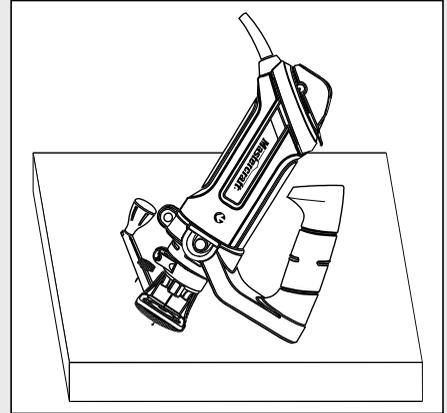

Fig. 13
- Rest the edge of the freehand cutting guide on the workpiece with the bit at an angle of about 45° (Fig. 13). Insert the circle cutting guide pivot point into the pilot hole drilled at the centre of the circle.